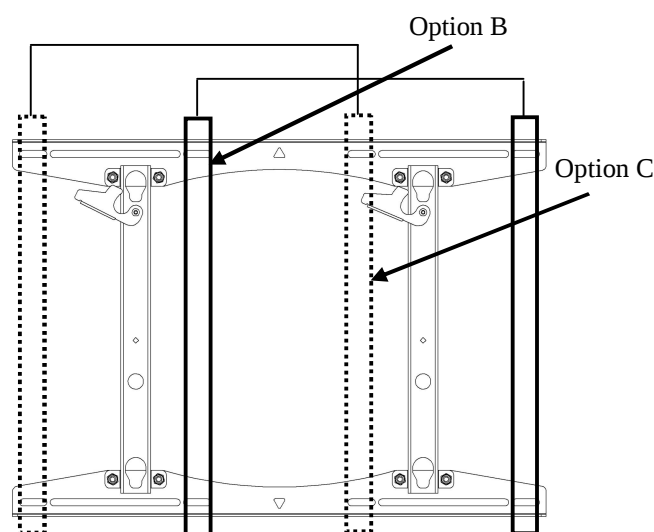

Figure 6. Mounting Holes – 16" Apart on Center (Options B and C)
- **Option B.** Install four 5/16" x 2-1/2" lag bolts (50) and four 5/16" washers (60) (two top and two bottom) into the mounting holes that are **right of center** on dual wood studs 16" apart as shown in Figure 6.
- **Option C.** Install four 5/16" x 2-1/2" lag bolts (50) and four 5/16" washers (60) (two top and two bottom) into the mounting holes that are **left of center** on dual wood studs 16" apart dual wood studs 16" apart on center as shown in Figure 6.